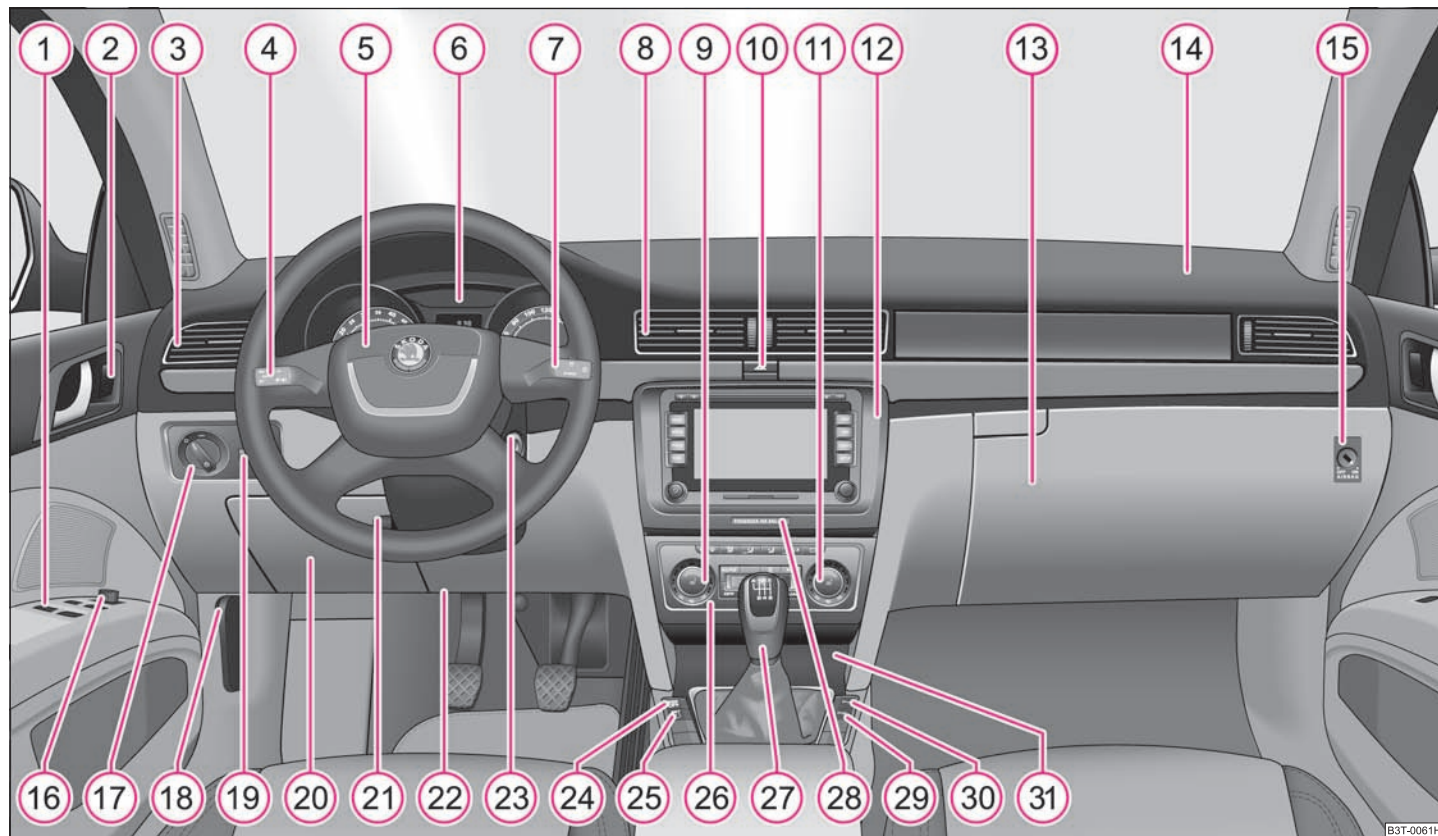

Fig. 1 Certain items of equipment shown in the illustration are only fitted to particular model versions or are optional items of equipment.
- The arrangement of the controls and switches and the location of some items on right-hand drive models may differ from that shown in ⇒ page 7, fig. 1. The symbols on the controls and switches are the same as for left-hand drive models. ■